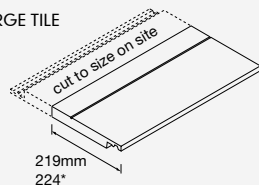

Fig. 8 – Cutting dimensions for LH and RH verge (Duo Modern and Duo Edgemere)
- 2 Continue subsequent courses of slates laid in a quarter bond, ensuring that left and right verge tiles are cut as either half tiles, three quarter tiles or standard tiles (see Fig. 8).